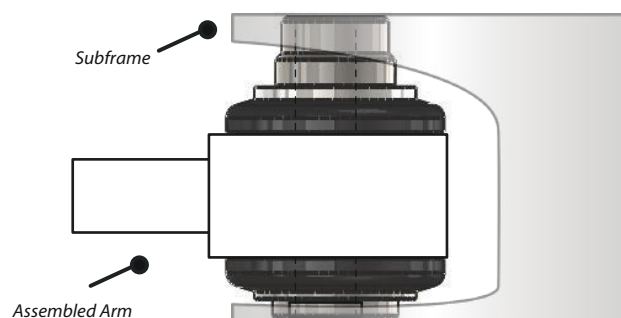

Figure 2 - Fitting the arm
7. Refit the arm to the vehicle ensuring the sleeve fits into the subframe as shown in Fig 2.